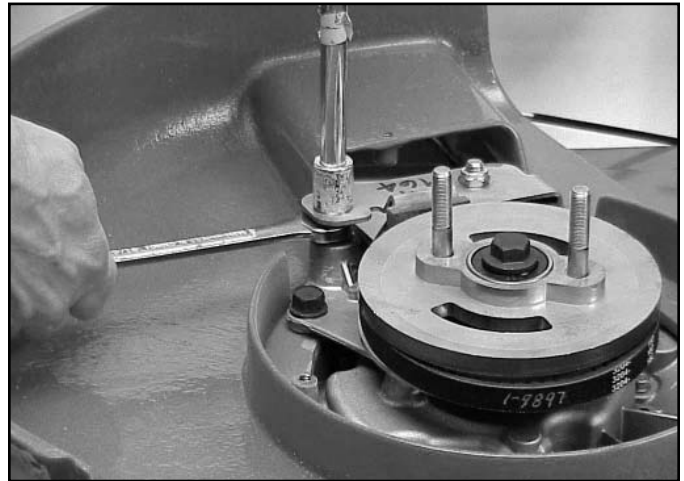

Fig 209
6. Remove the brake pivot bolt. You will need a second wrench to hold the bolt head (Fig. 209).